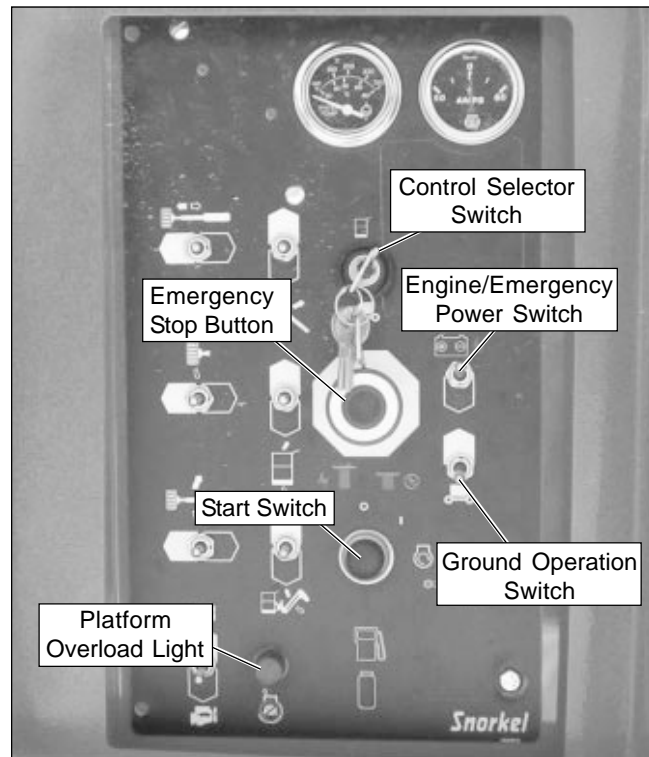

Figure 8.2 – Lower Controls
Use the following procedure to operate boom, turntable, or platform functions using the lower controls. Refer to Figure 8.2.
1. Pull the emergency stop button (refer to Figure 8.2) outward. Insert the key in the control selector and turn the switch to the lower control position.